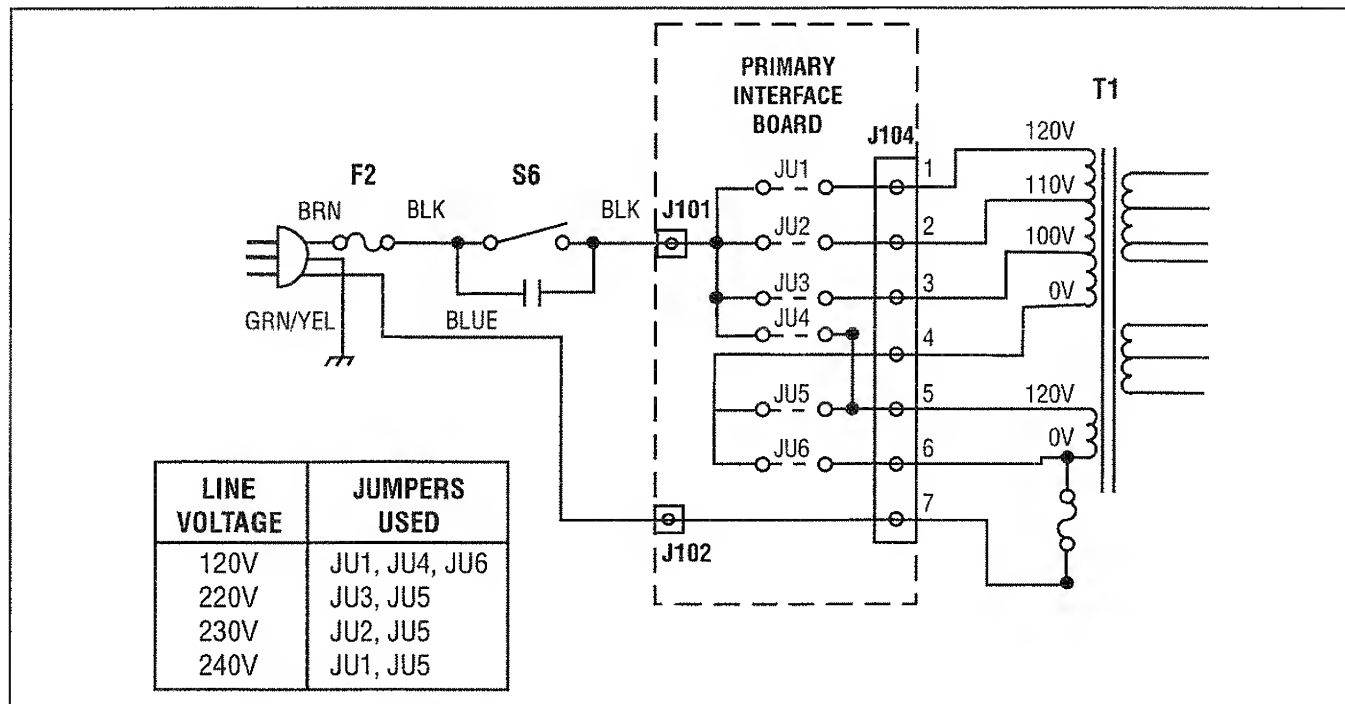

Fig. 17. Line Voltage Conversion, International Units.
The primary winding of the power transformer is tapped to permit operation from 120, 220, 230, or 240 VAC, 50/60 Hz line voltage. Conversion from one line voltage to another is done by a simple wiring change as shown in Fig. 17.
3. Rewire the power transformer to the desired line voltage as shown in Fig. 17.